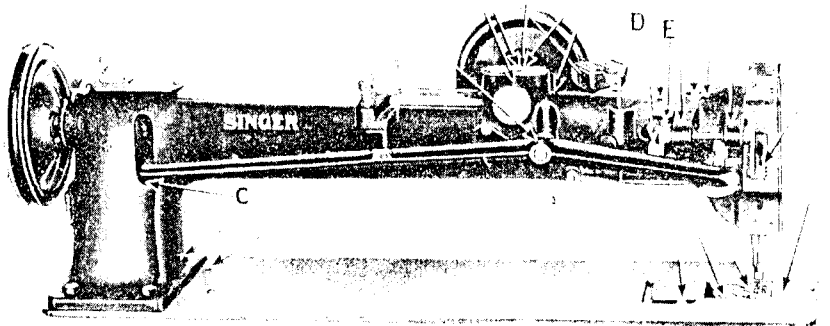

Fig. 3
To increase the pressure, turn the thumb screw (D, Fig. 3) at the back of the machine, downwardly. To decrease the pressure, turn this thumb screw upwardly.
If the distance between the vibrating presser bar and the lifting presser bar is more or less, insert a screwdriver in the hole at (C, Fig.3) at the rear of the machine and loosen the clamp screw which holds the needle bar rock frame rock shaft. While this screw is loose, the needle bar frame can be moved forward or backward to the required distance. A piece of metal of the correct width may be used to determine the correct distance. When making this adjustment be sure to see that the feed regulating spindle head is set so that there is no feeding movement of the needle bar. When the adjustment has been made, securely tighten the clamp screw at C.
The amount of lift of the vibrating and lifting presser feet should be regulated according to the thickness of the material being sewn. The feet should lift just high enough to clear the material. As a rule, the vibrating and lifting pressers should lift an equal height, but some grades of work may require that they lift an unequal height. To change the relative lift of the presser feet, loosen the screw (E, Fig.3) at the back of the machine and move the vibrating presser bar upward or downward as required, then securely tighten the screw (E).